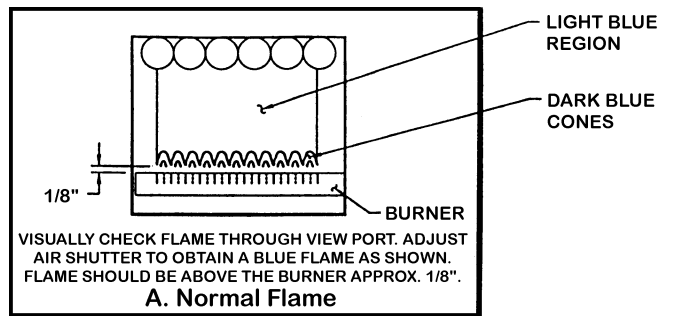

Figure 22. Normal Flame Characteristics
This is an induced burner and the flame is not supposed to be directly on the burner. The flame should be just above the burner deck approximately 1/8" and blue in color. See Figure 22.
Visually check flame characteristics through the view port located under the left-hand header on the boiler. Figure 22 shows the normal flame condition. Also, refer to the flame label on the unit (adjacent to the view port).
- Cause no excessive lifting of flame from burner ports. See Figure 22.